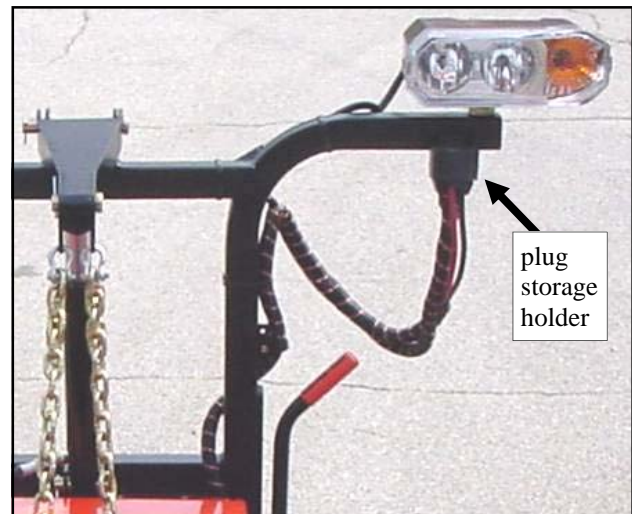

Fig. 14.2 (view of driver's side)
14.2 Per fig. 14.2, the plug storage holder can be used as shown when the plow is not attached to a vehicle.